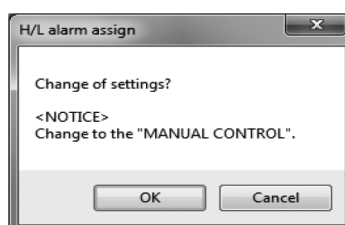

Fig.63
- ④ After all settings are complete, click the "OK" button to display a message box (Fig. 63).